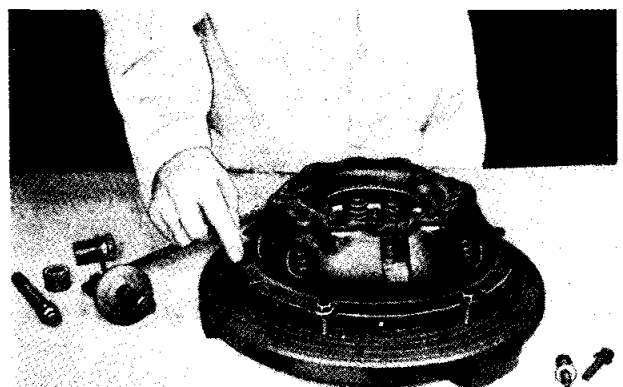

Fig. 10 Adjusting nuts have been removed, cover securing bolts being removed.
- (h) Remove the bolts clamping cover assembly to base plate by diagonal selection to release load on springs (Fig. 10).